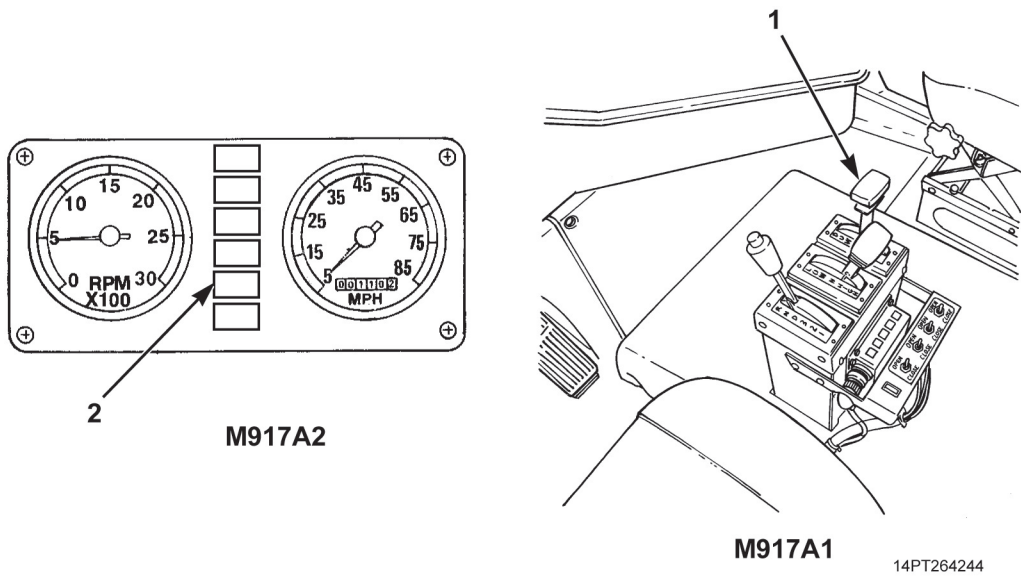

Figure 3. Hydraulic Control Lever and Body Up Indicator Light.
- b. Squeeze T-handle together and pull hydraulic control lever (Figure 3, Item 1) back to UP position. Body up indicator light (Figure 3, Item 2) should come on as dump body is raised.
- c. Return hydraulic control lever (Figure 3, Item 1) to N (Neutral) position when dump body is fully raised or has reached desired height.
- a. With engine at idle speed, squeeze T-handle together and push hydraulic control lever (Figure 3, Item 1) forward to DOWN position. Body up indicator light (Figure 3, Item 2) should turn off when dump body contacts truck frame.